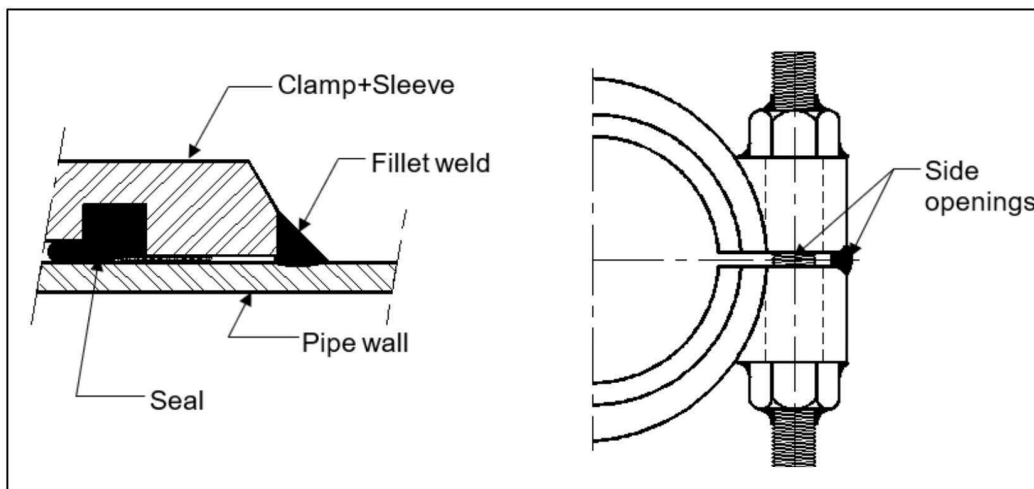

Figure 13
1. Fillet weld ends to pipe. (See Figure 13)